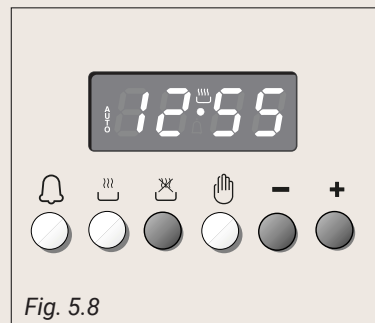

Fig. 5.8
2. Set the end of the cooking time by pushing the  button and the **+** button to advance, or **-** to go backwards if you have passed the desired time (fig. 5.8).